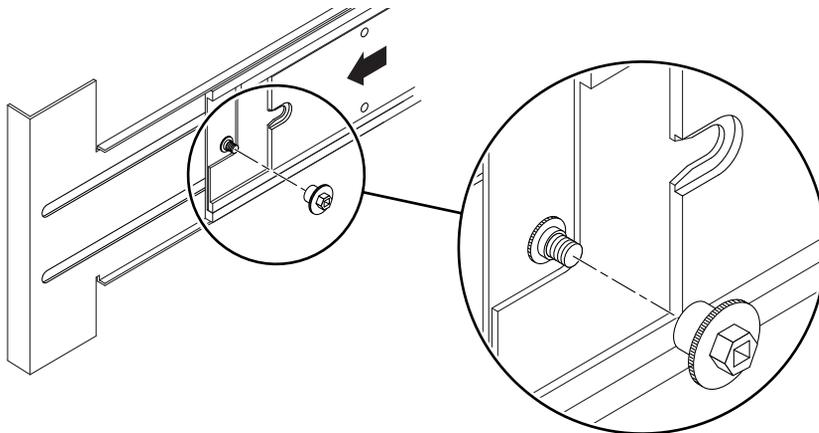

FIGURE 3-12 Inserting and Tightening the Locking Nut
5. From the rear of the system, insert and tighten the locking nuts over the spacers (FIGURE 3-12).
1. From the rear of the system, remove the retention nut over each washer (FIGURE 3-12).